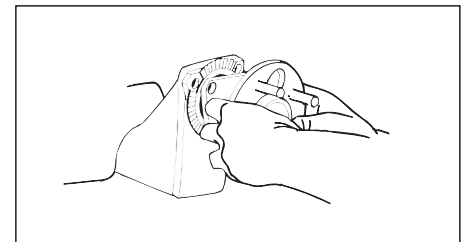

Figure 4
8. Remove the spindle or hub from the vehicle, clean all surfaces and install the shim with the top reference mark directly at 12:00 position and the serrations facing out (toward you) **(Figure 4)**